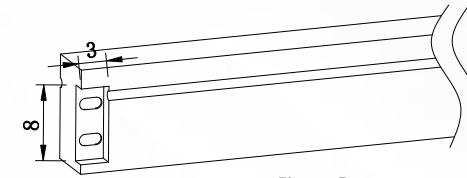

Figure 5
3. Cut off the adhesive on the back of the PCB to reveal the welding points, as shown in Figure 5.